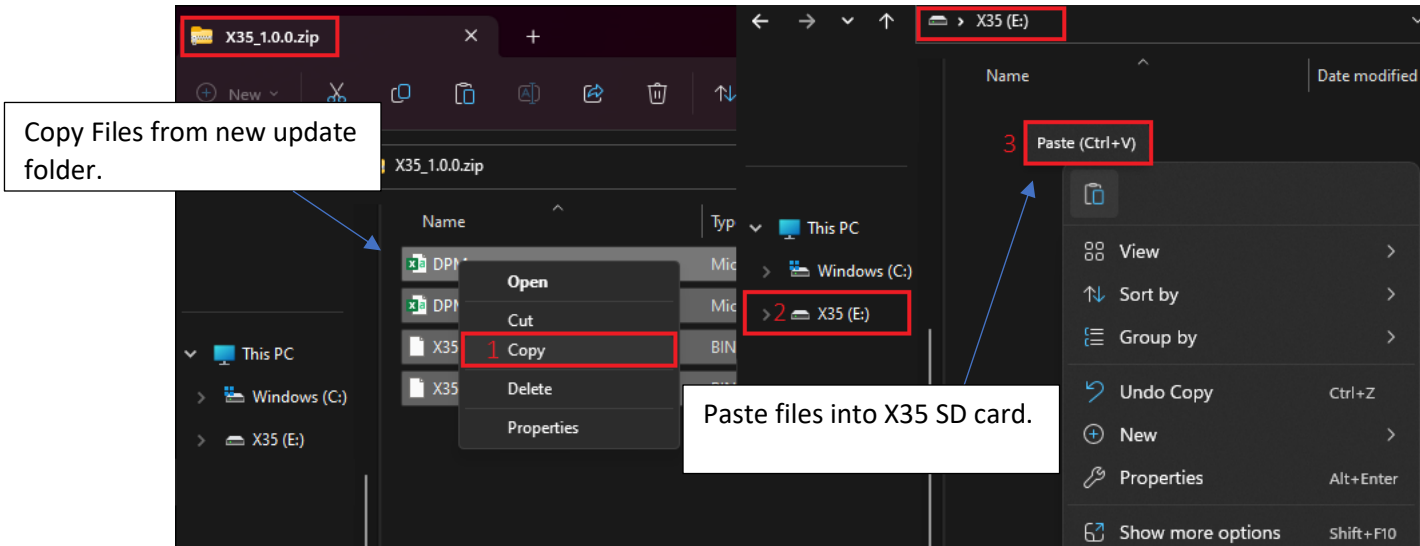

Figure 4.47
2. Copy the existing or new firmware internal files into SD card as shown in **FIGURE 4.47**.